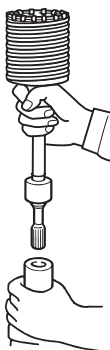

Fig. 13
- (2) Mount the core bit shank to the Rotary Hammer. (Fig. 13)